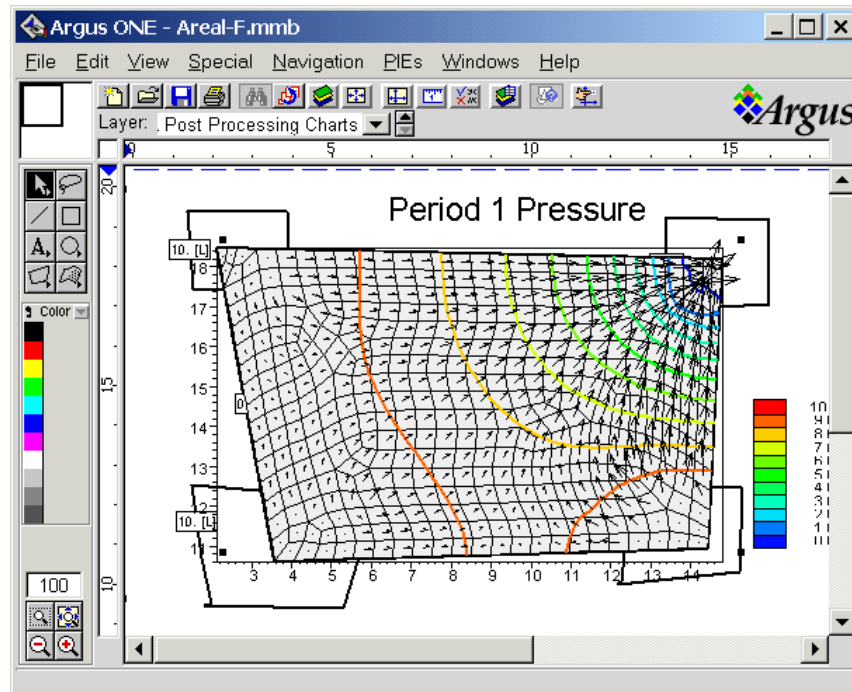

Figure 23. Head and vector plot in areal ground-water-flow step-by-step example.
23. This dialog box contains a list of all results available from the SUTRA simulation for visualization. Because the simulation was for steady-state conditions, only one time step appears. Click on the **no** below Pressure to change it to **YES** (this selects a contour map of head). Also, select a velocity vector map by changing the **no** below Velocity to **YES**. Then click on **OK** and the plots of velocity vectors and head contours (similar to that in figure 23) are created.
2. Select *File|Open...*, to bring back the project that was saved in the previous step-by-step example. In the *Choose file to open:* dialog box that appears, move to the appropriate directory and double-click on the “.mmb” project file that was saved in the above example (for example, Areal-F.mmb). This returns the user environment to the same state as when the project was previously saved (fig. 23).